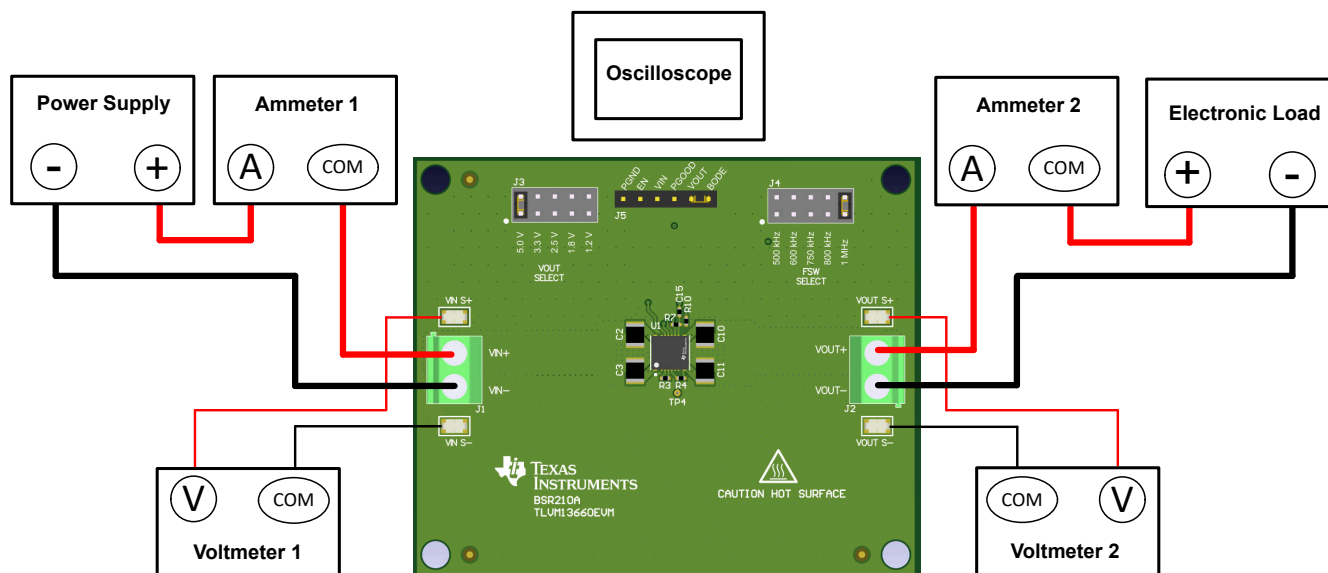

Figure 4-1. EVM Test Setup
Referencing the EVM connections described in Table 4-1, use the recommended test setup in Figure 4-1 to evaluate the TLVM13660. Working at an ESD-protected workstation, make sure that any wrist straps, bootstraps, or mats are connected and referencing the user to earth ground before power is applied to the EVM.
- Prior to connecting the DC input source, set the current limit of the input supply to 0.1-A maximum. Ensure the input source is initially set to 0 V and connected to the VIN+ and VIN– connection points as shown in Figure 4-1.
- Connect an electronic load to the VOUT+ and VOUT– connections as shown in Figure 4-1. Set the load to constant-resistance mode or constant-current mode at 0 A before applying input voltage.